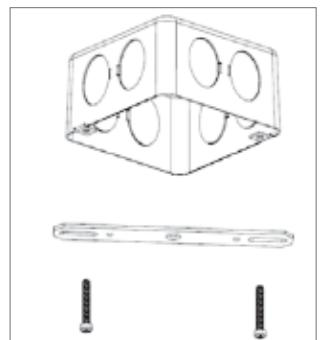

FIGURE 2
B) For 3.5" and 4" junction boxes, align appropriate holes on the mounting bracket with the holes on the junction box. Use of the included screws (M4x40 screws)  to attach the mounting bracket to the junction box. Mounting bracket should be flush with the ceiling. For 2.75" junction boxes, skip this step. (Figure 2 & 3)